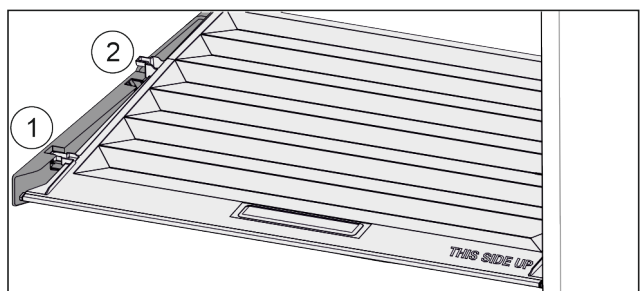

Fig. 116
- ▶ Pull the lid up at the front to the opening in the retaining parts Fig. 116 (1).
- ▶ Lift from the back and pull it up and out Fig. 116 (2).